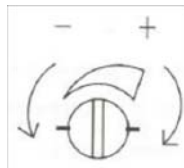

Figure 50. Pressure Setting Trimmer
3. Turn the trimmer until the LED on the sensor illuminates (See Figure 50).